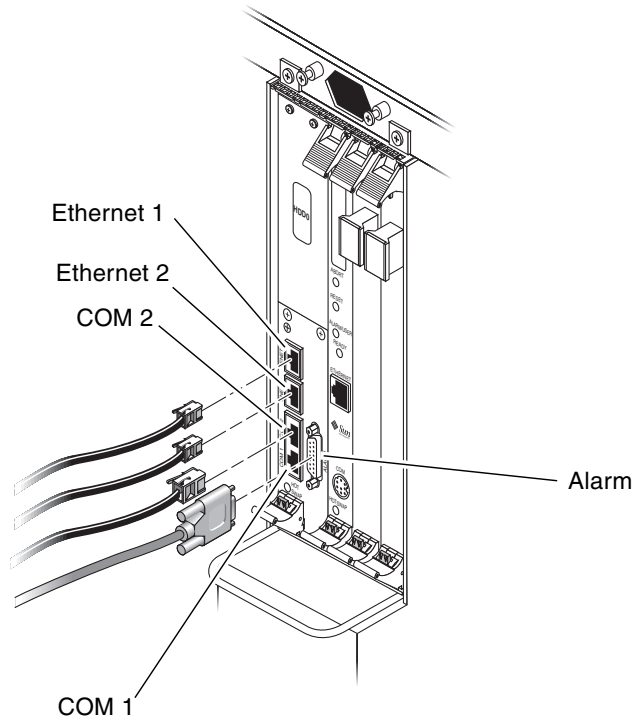

FIGURE 6-11 Connectors for the Double-Wide 3U Alarm Card
- Double-wide 3U alarm card—FIGURE 6-11